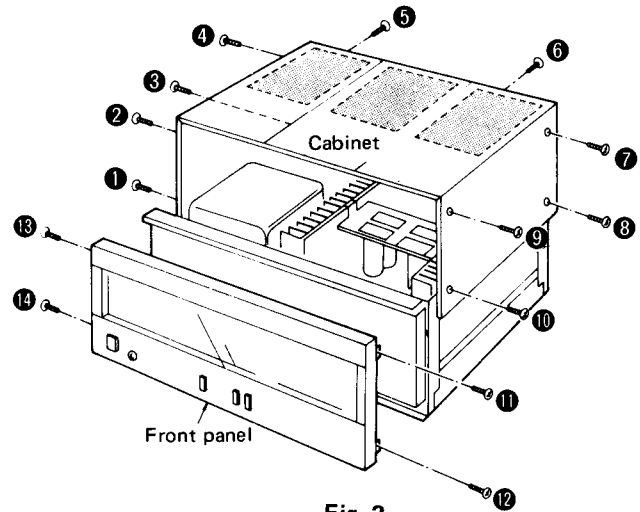

Fig. 2
Remove the 10 setscrews. ( ① ~ ⑩ in fig. 2)
Remove the 4 setscrews. ( ⑪ ~ ⑭ in fig. 2)